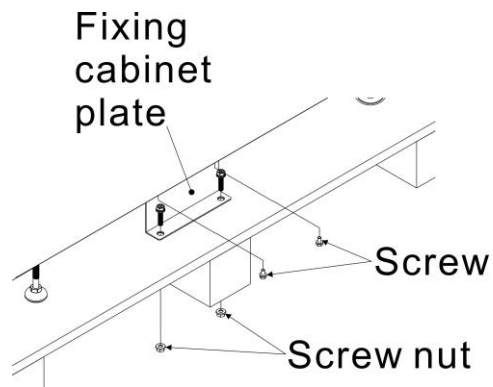

Figure 2-3
3. Remove 2 fixing cabinet plates and loosen leveling feet by rotating them counterclockwise. Then, move the cabinet from the pallet. Refer to Figure 2-3.